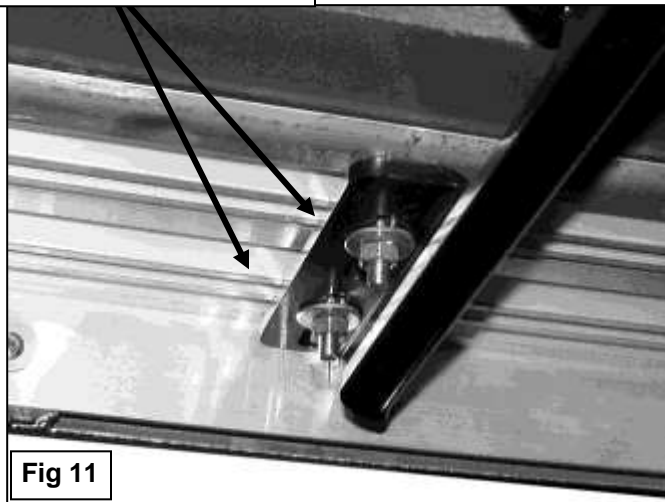

Fig 11
7. Carefully position the Driver/Left Running Board onto the (3) Mounting Brackets. Slide the T-Bolts into position and through the slots in the Brackets. Attach the Board to the Brackets with (6) 6mm Flat Washers, (6) 6mm Lock washers and (6) 6mm Hex Nuts, **(Figure 11)**.